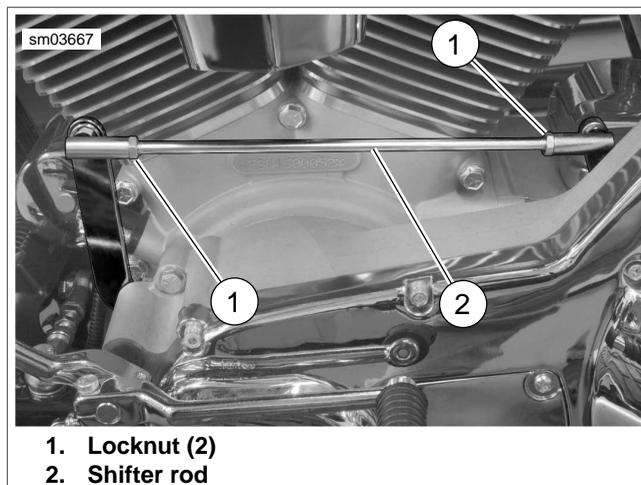

Figure 7-2. Shifter Rod
1. See Figure 7-2. Remove locknut, lockwasher and flat washer to free front end of shifter rod from inner shift arm.
2. Loosen locknuts (1) and adjust rod (2) as necessary.
4. Tighten locknuts (1) to 80-120 **in-lbs** (9.0-13.6 Nm).